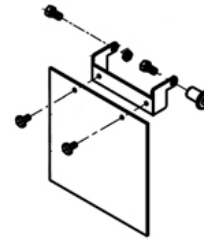

Figure 3. Eye-shield and bracket assembly
1. Attach the clear eye-shield to the bracket using 3/16" Phillips screws. See Figure 3.
2. Attach the eye-shield bracket to the dust collection guard brackets with two 1/4" bolts. The bolt on the outside of the guard, opposite the motor, is secured with a nut as shown in Figure 3 and the other is secured with a knob as shown in Figure 4.